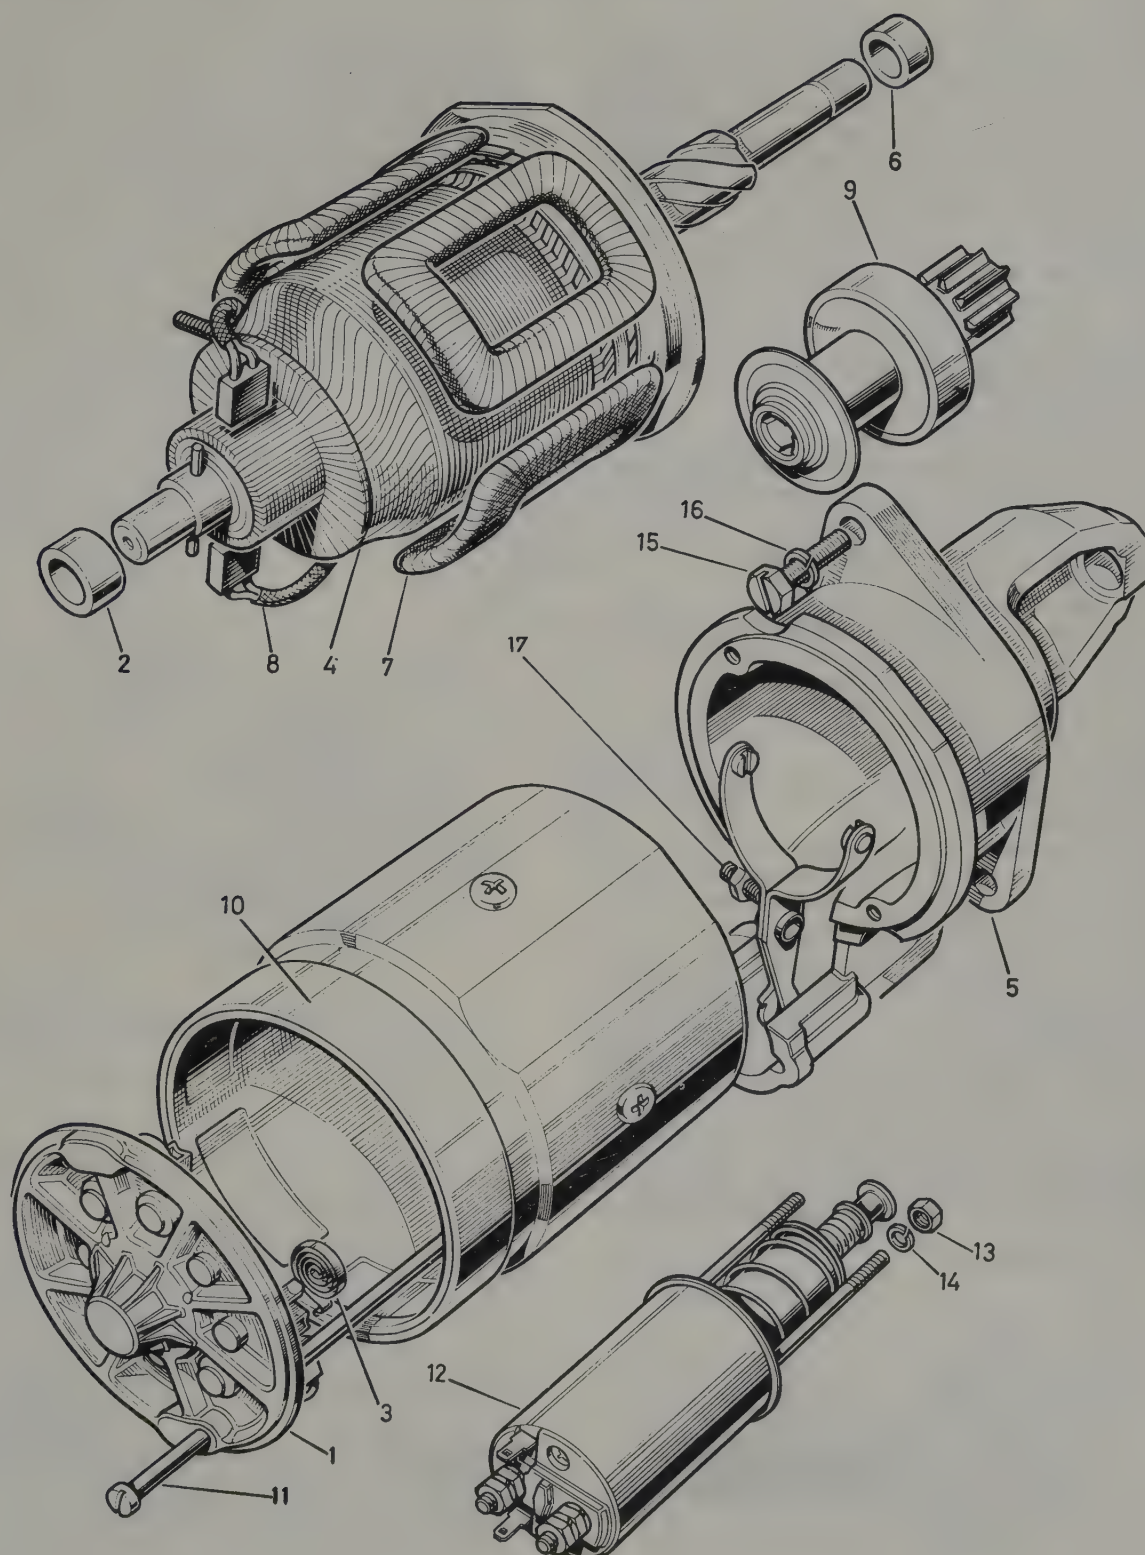

Fig. 10.10. Starter motor components (Lucas M45G)
- 1 With the starter motor on the bench, loosen the screw on the cover band and slip the cover band off. An exploded view of this starter motor is shown in Fig.10.10.